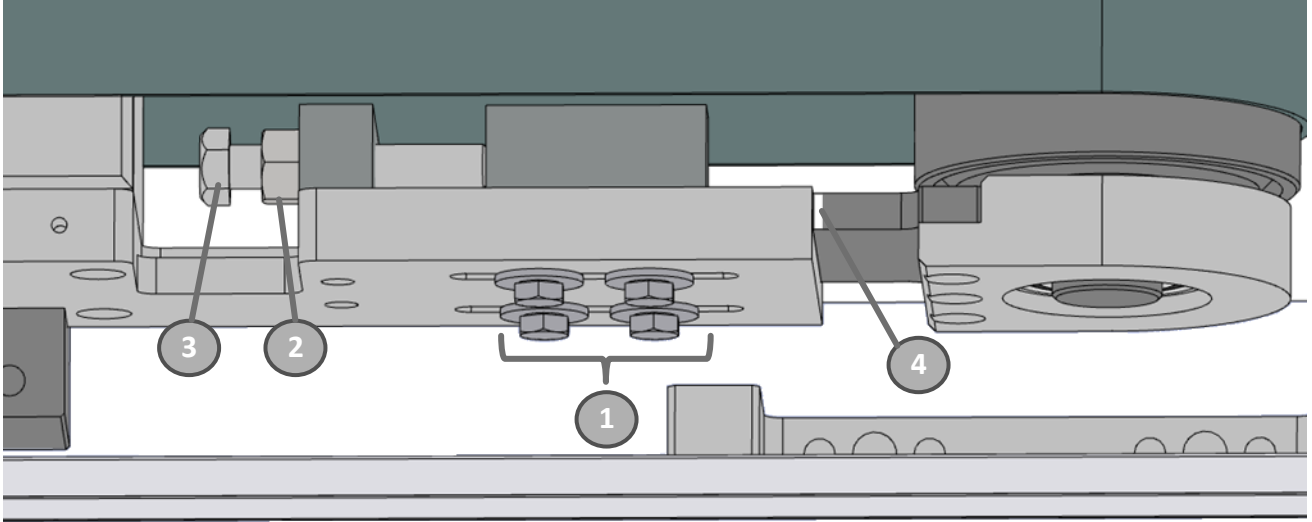

Figure 6-5
- Tighten the adjustment screws (3) Figure 6-5 from both sides of the roller until the mark (4) reappears.
- Check that the tension of the new belt is correct, then tighten the 4 bolts (1) and the lock nut (2) Figure 6-5 on both sides of the roller.